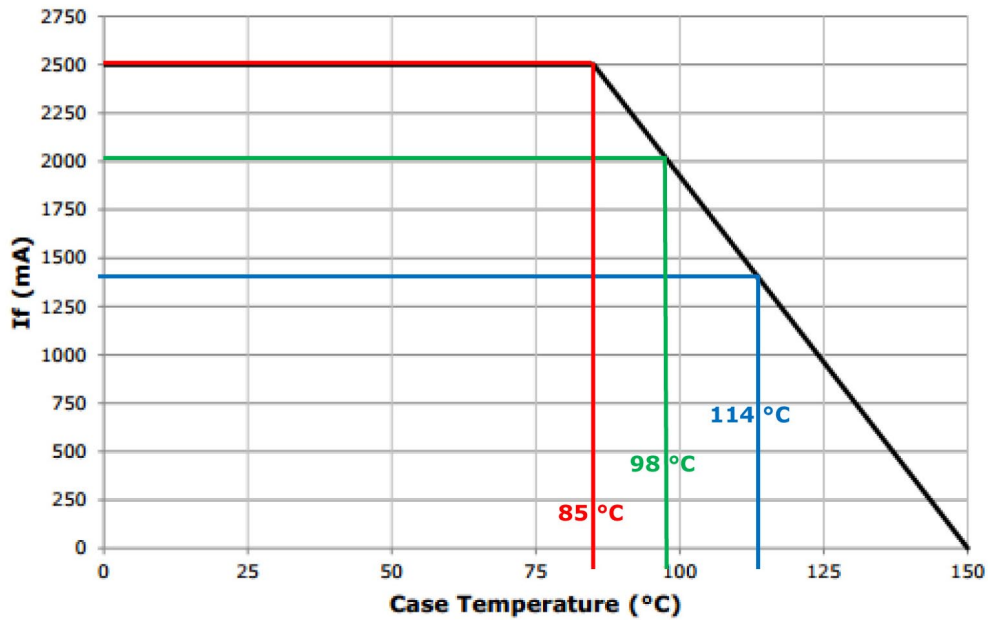

Figure 2: CXA3050 operating limits
8. Compare the measured T_c with the graph shown in Figure 2. The test is considered passed if the T_c at the test current level is less than the temperature on the graph. The measured maximum operating temperatures at the current levels in this test are shown in Figure 2.